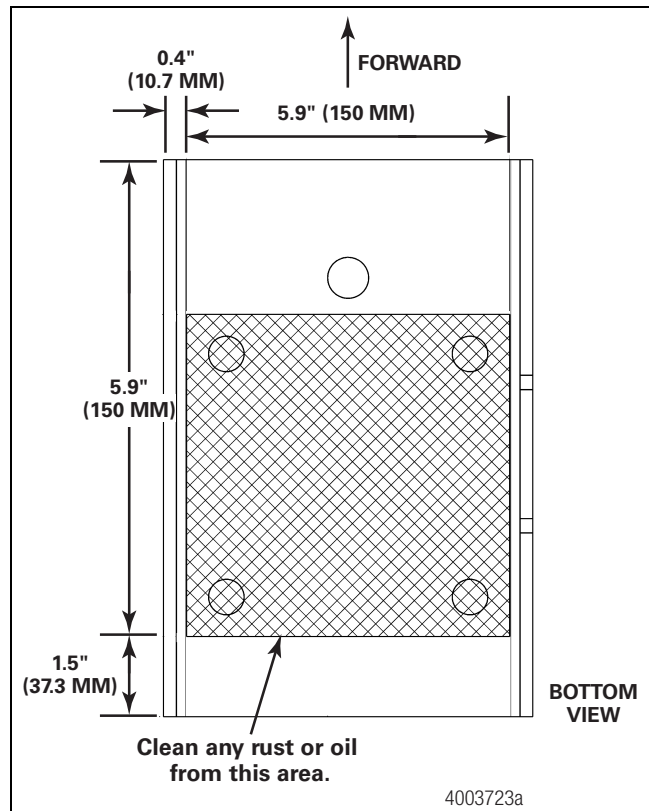

Figure 7.22
2. Clean any rust or oil from the subframe in the area that the relay and idler shaft are installed. Figure 7.22.